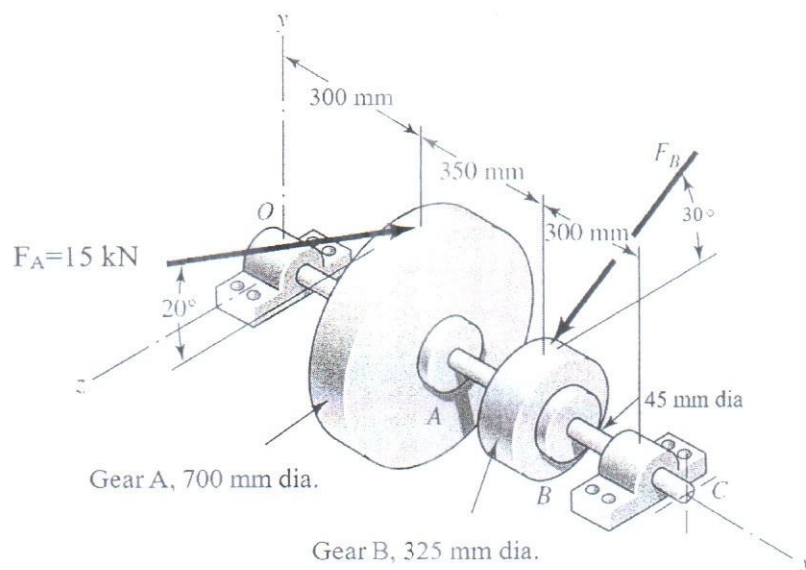

Figure 2
- 1 (b) **Figure 2** is showing a steel countershaft having two gears *A* and *B*. Find the deflection and slope of the shaft at point *A*. Use superposition method assuming the bearings constitute simple support. (15)
2. A gear reduction unit uses the countershaft shown in the **Figure 2** (Page 1). Gear *A* receives power from another gear with the transmitted force F_A applied as shown in figure. The power is transmitted through the shaft and delivered through gear *B* through a transmitted force F_B at the pressure angle shown in figure. (25)